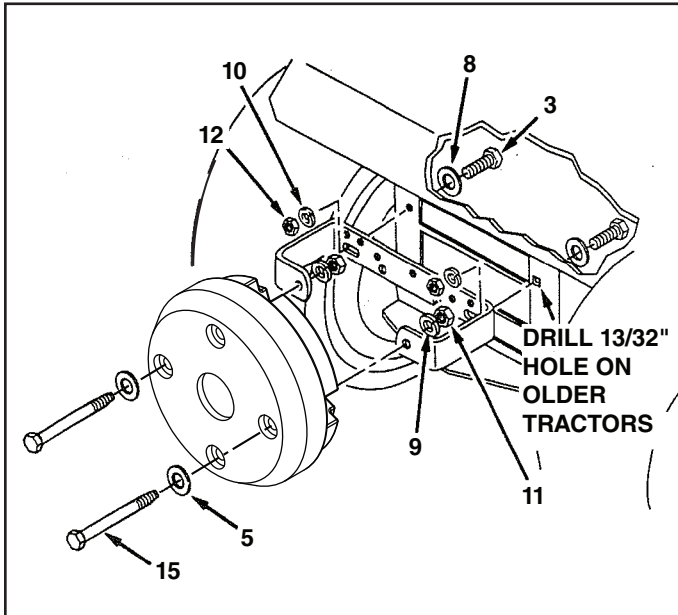

FIGURE 1
1. Assemble two 1.5" O.D. washers (8) onto two 3/8-16 x 1" hex bolts (3). Insert bolts through drawbar and assemble weight bracket (1) onto bolts. Fasten securely with two 3/8" lock washers (10) and two 3/8-16 hex nuts (12). See figure 1.
2. Assemble wheel weight to weight bracket (1) using two 1/2" x 5-1/2" hex bolts (15), 1" O.D. washers (5), 1/2" lock washers (9) and 1/2-13 hex nuts (11). Tighten securely. See figure 1.